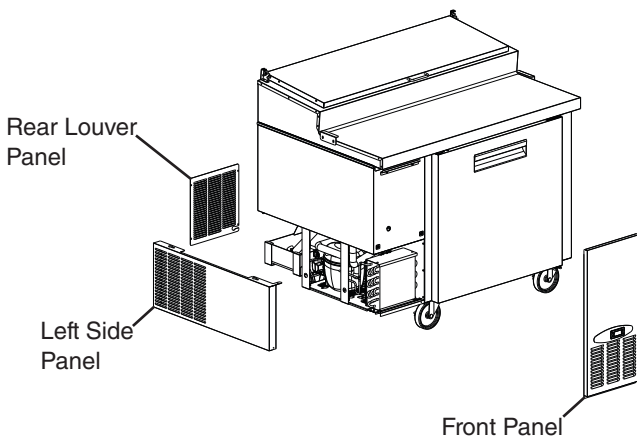
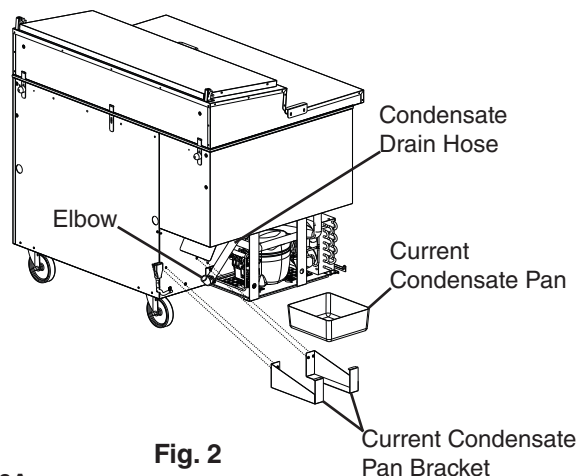

Fig. 1
Fig. 2
- 4) Remove the front, left side, and rear louver panels. See Fig. 1. Next, remove the current condensate pan and condensate pan brackets as shown in Fig. 2 and discard, then remove the condensate drain hose. Note: Remove elbow from condensate drain hose for re-use, then discard condensate hose.